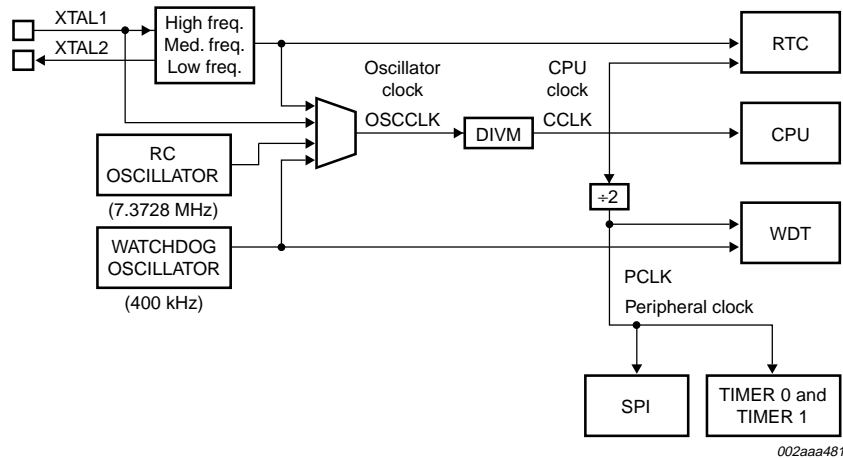

Fig 10. Block diagram of oscillator control (P89LPC912).
**OSCCLK** — Input to the DIVM clock divider. OSCCLK is selected from one of four clock sources (see Figure 10, 11, and 12) and can also be optionally divided to a slower frequency (see Section 9.7 “CPU Clock (CCLK) modification: DIVM register”).